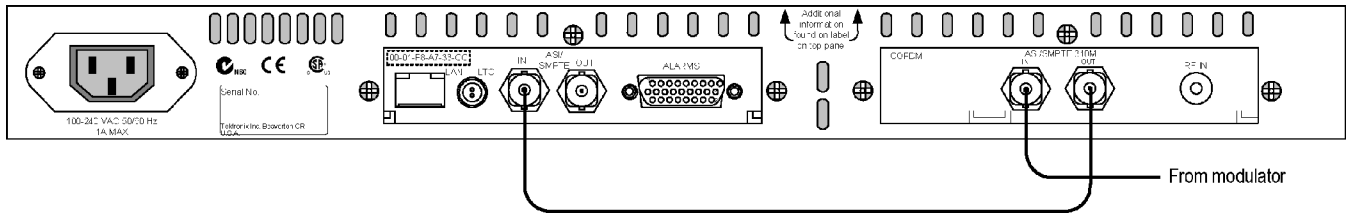

Figure 23: Monitoring ASI and RF signals - QAM (Annex B, new version), 8PSK, 8VSB, and COFDM interfaces only
2. Connect the RF cable supplied in this kit between the ASI/SMPTE310M Out connector on the interface card to the ASI In connector on the Transport Stream Processor card (see Figure 23).